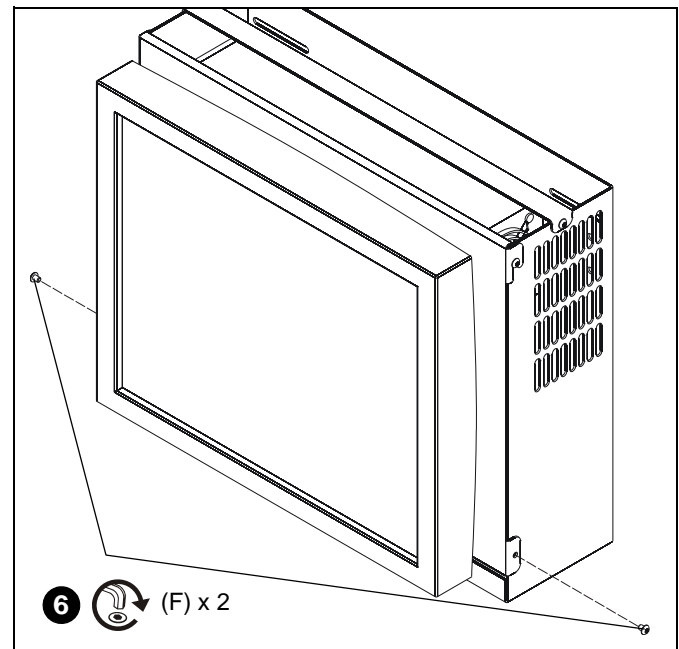

Figure 6
6. Install two #10-24 x 1/4" button head cap screws (F) through holes in faceplate (B) and CPU holder (A). (See Figure 6)